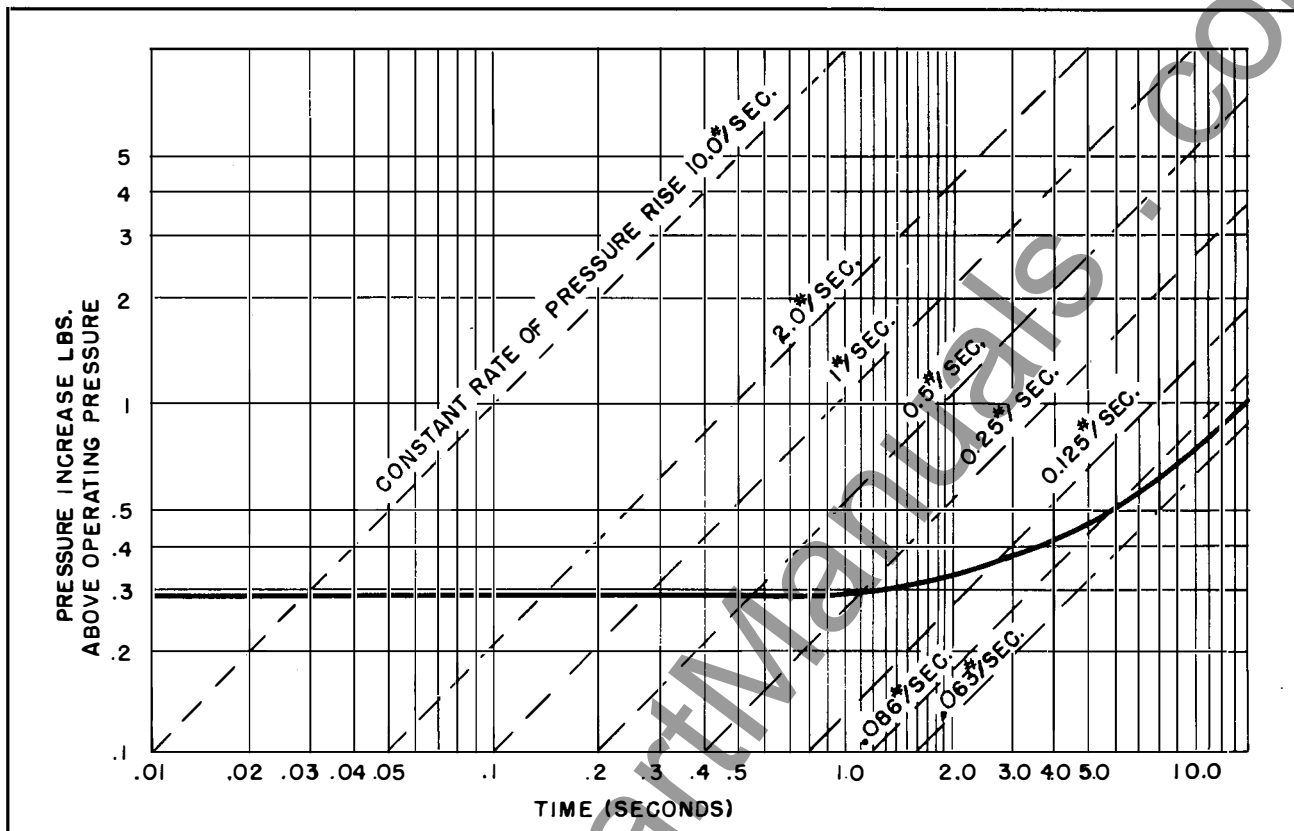

FIG. 4. Operating Characteristics of Sudden Pressure Relay.
The Sudden Pressure Relay will accomplish the following: (See Fig. 4).
2. It will operate on a minimum average rate of rise in pressure of .07 pounds per sq. inch per second as shown in Fig. 4 by the median line. The shaded areas above and below the solid median line represent the operating range found in practice because of the tolerance on the pressure-sensitive device setting. Fig. 4 shows the time required to
Referring to Fig. 4, showing the operating characteristics of the sudden pressure relay, note that there are three variables: The rise in pressure in the tank (above operating pressure), the rate of pressure increase (per second), and the length of time required for the relay to operate.